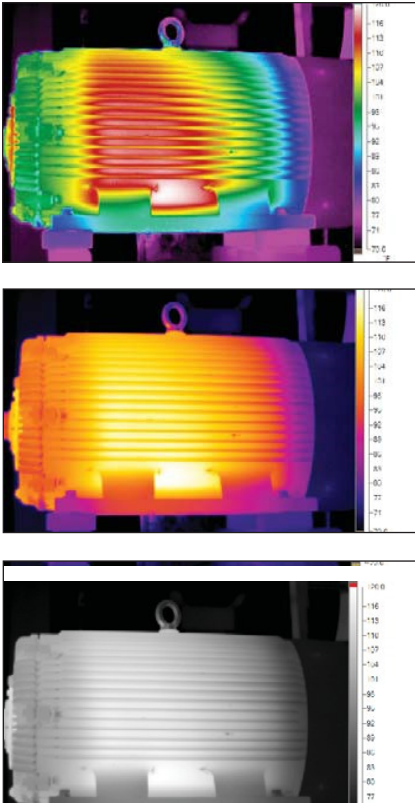

Figure 8
**Image Palettes:** A camera should have at least three temperature scale palettes: High Contrast; Monochromatic, and Grayscale (shown respectively in Figure 8). Many thermographers prefer either using a grayscale or monochromatic (shades of a few colors) type palette as they are easier to focus than a high contrast palette. A grayscale palette is essential for those who are color blind, and monochromatic color is often preferred for those who have a color imbalance. A high contrast palette is useful for some wide range mechanical applications (e.g. boilers and furnaces) or situations requiring a thermal delineation (liquid and sludge levels in tanks, or line blockages). The palettes on an image stored by the camera can be changed in the report software provided by the camera manufacturer.